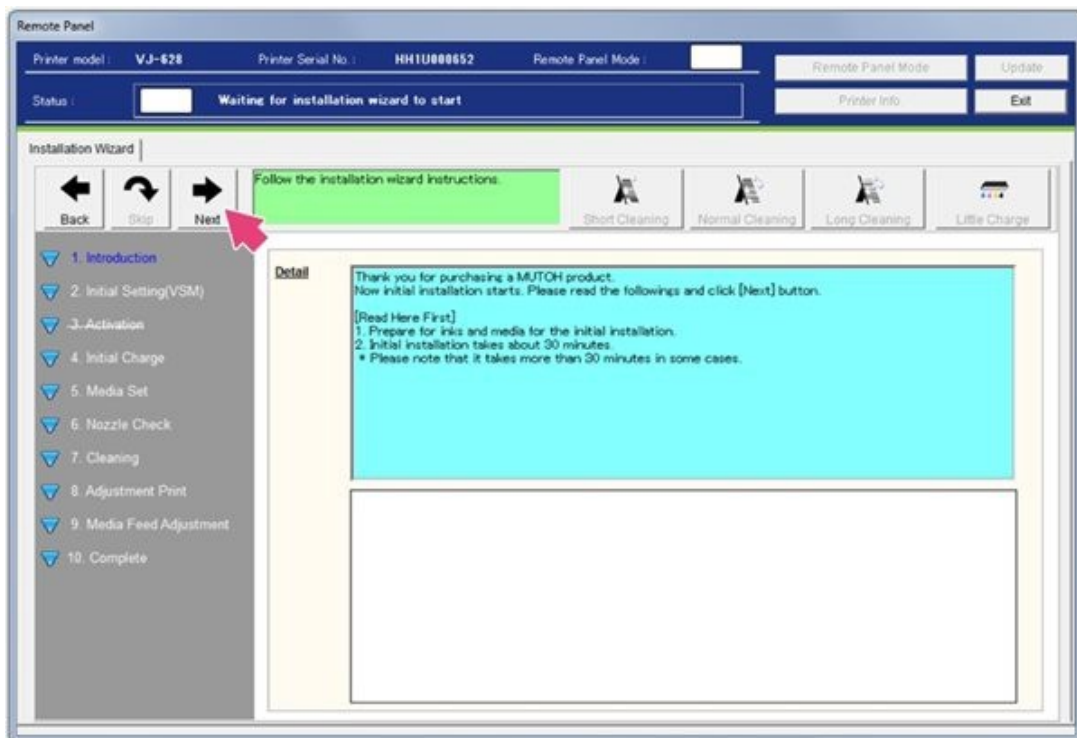

Figure 45
32. The Installation Wizard will now assist you with ink and media installation. Select **Next** to begin. See Figure 45.